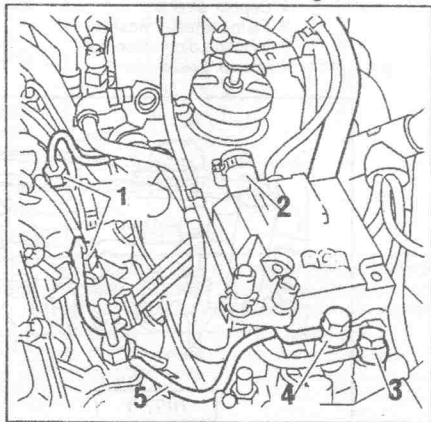

Fig. 1.89. — Remove the parts in the order shown.
- Refer to Fig. 1.89 and connect in the following order: The wiring harness (1), the flexible pipe (2), the diesel fuel inlet pipe (3), the fuel return pipe (4) and
the return pipe (5). After all connections have been located in Fig. 1.89, lock the flywheel as described during the removal of the timing belt. The engine must be rotated by applying a ring spanner or socket to the crankshaft pulley bolt until the locking rod can be inserted into the flywheel. Fig. 1.55 shows where this takes place.